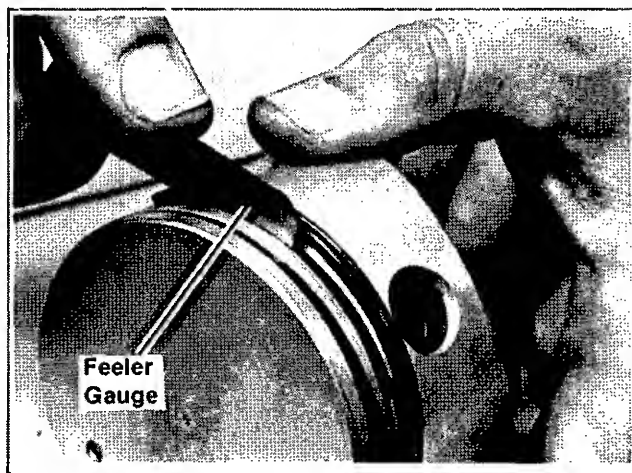

Figure 7-12. Checking Piston - Ring Side Clearance
4. Rings must be installed correctly. Ring installation instructions are usually included with new ring sets. Follow instructions carefully. Use ring expander to install rings and check side clearance of each ring after installation (see Figure 7-12). For side clearances see "Specifications And Tolerances" Section 1.